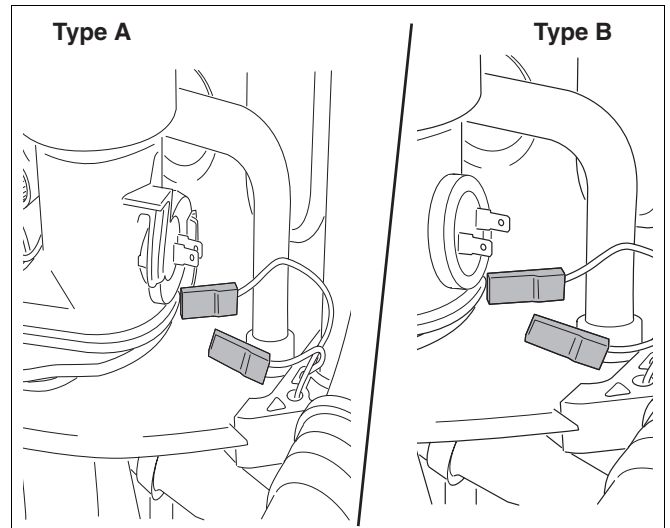

fig. 65 Remove plugs from flue gas thermostat
- Remove both plugs from the flue gas thermostat (→ fig. 65).